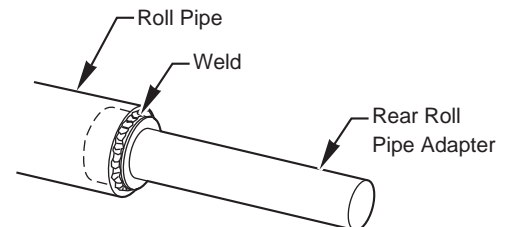

Figure 51
- 5) **See Figure 51.** Insert the larger diameter end of the roll pipe adapter into the roll pipe. Make sure the adapter is aligned with the tube and weld the adapter to the pipe. Grind the weld down and spray with corrosive inhibiting paint.